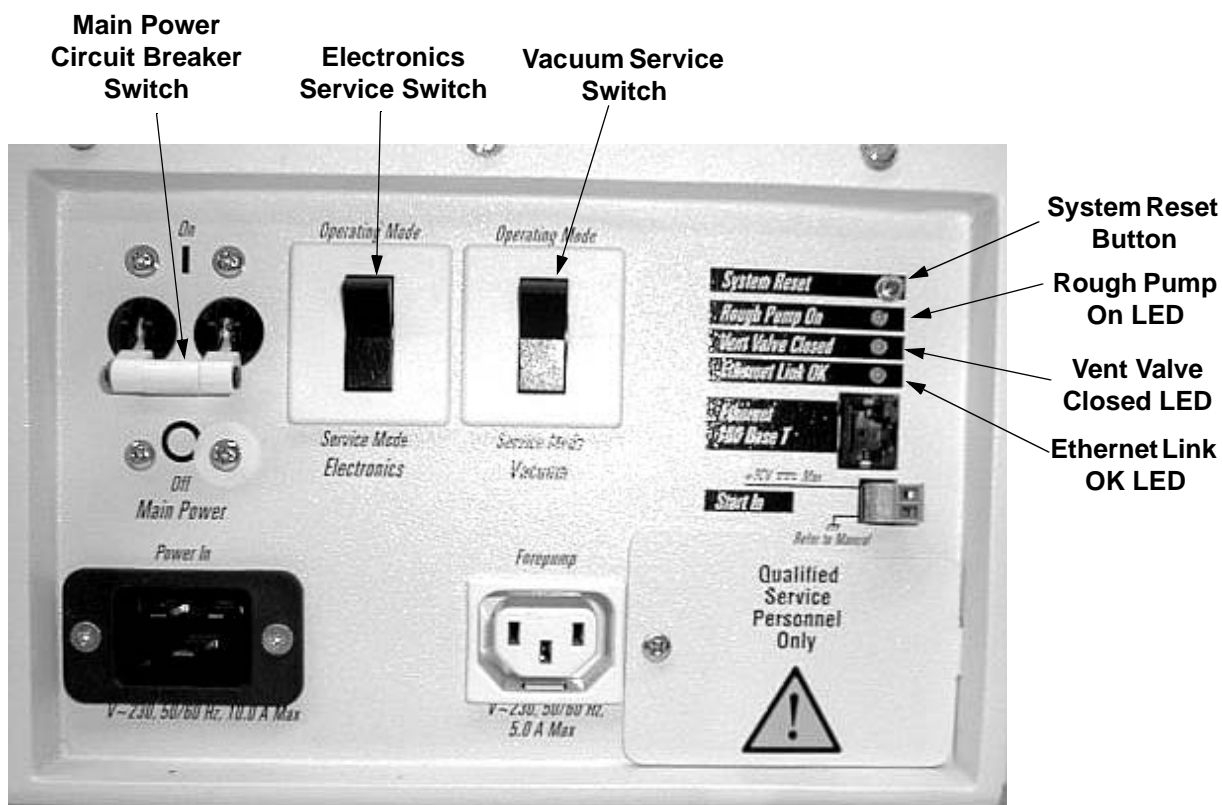

Figure 2-7. Power panel, showing switches and LEDs
The **main power circuit breaker switch** (labeled *Main Power*) is located on the power panel at the lower right corner of the right side panel of the mass spectrometer. See Figure 2-7. In the Off (O) position, the circuit breaker removes all power to the mass spectrometer, including the vacuum pumps. In the On (I) position, power is supplied to the mass spectrometer. In the standard operational mode, the circuit breaker is kept in the On (I) position.
The **electronics service switch** (labeled *Service*) is located next to the main power circuit breaker on the power panel (Figure 2-7). In the Service Mode position the switch removes power to all components of the mass spectrometer other than the vacuum system. In the Operating Mode position power is supplied to all non-vacuum system components of the mass spectrometer.
The **vacuum service switch** (labeled *Vacuum*) is located next to the electronics Service switch on the power panel (Figure 2-7). In the Service Mode position the switch removes power to the forepump, turbomolecular pump, 24 V power supply, cooling fans, Vent Delay PCB, and vent valve. The vent valve then opens after a delay time. In the Operating position power is supplied to the forepump, turbomolecular pump, 24 V power supply, cooling fans, and Vent Delay PCB. The vent valve is then closed.